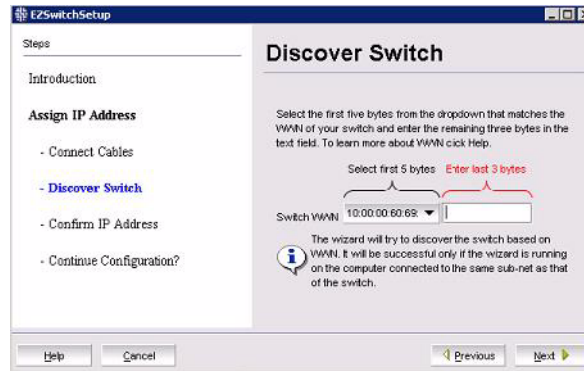

FIGURE 7 First Discover Switch screen
If you are using an Ethernet LAN connection, a **Discover Switch** screen is displayed (Figure 7).
- b. From the **Screen WWN** drop-down list (Figure 7), choose the switch's WWN prefix numbers and then enter the last six alphanumeric digits of your switch's WWN. Each two alphanumeric digits must be separated by a colon.